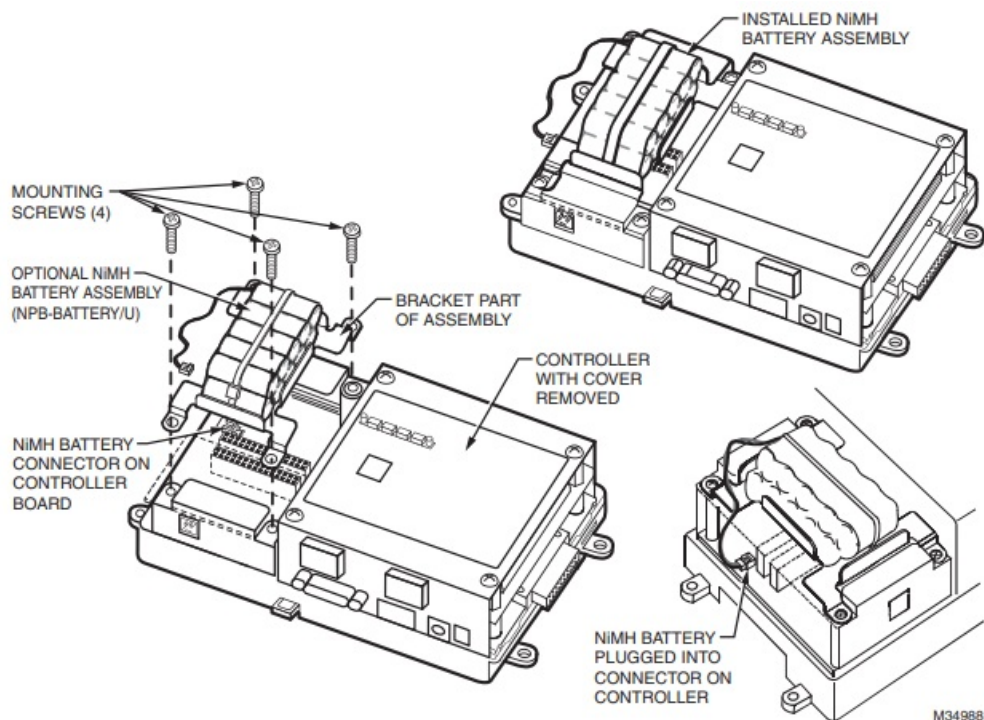

Fig. 9. Optional NiMH battery pack in WEB/CP-300E or WEB/CP-600E/U controller.
The optional NiMH battery pack is sold as an assembly, that is a custom battery pack with an attached cable and connector plug, mounted on a bracket. To install (or replace) the battery, you must remove power to the controller and remove its cover. Then you mount the battery assembly on top of the option card area (Fig. 9).
5. If a battery assembly is already mounted, unplug the battery from the connector on the controller board (see Fig. 9).
7. Plug the battery connector plug of the new battery assembly into the battery connector on the controller (see Fig. 9).